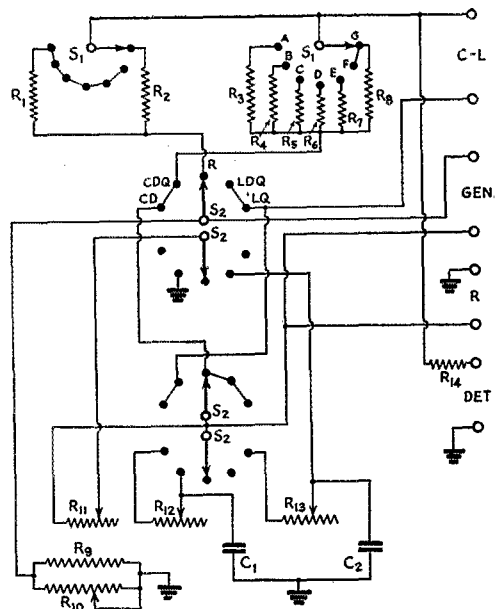

Fig. 1 -- Circuit diagram of the impedance bridge.
The complete circuit diagram of the instrument is given in Fig. 1. It includes a switching arrangement whereby any of the basic bridge circuits shown in Fig. 2 may be obtained.
In Fig. 1, when selector switch S_2 is in the position marked R , the circuit is that of the Wheatstone bridge, shown in Fig. 2-A. With this arrangement any resistance value from 0.01 ohm to 1 megohm can be measured when it is connected across the terminals at the right marked R .
As an illustration, in the instrument shown in the photographs R_v is 10,000 ohms, R_a is also 10,000 ohms (except for the highest resistance range, G in Fig. 1), while the tap switch, S_1 , changes R_b in steps of 10 to 1; i.e., 1 ohm, 10 ohms, 100 ohms, etc., up to 100,000 ohms. The multiplying factors which can be applied to the resistance setting of R_v are, therefore,
In the wiring diagram of Fig. 1, R_1 and R_2 are the resistors represented by R_a , while R_3 to R_8 are the resistors represented by R_b . R_v represents the resultant of R_9 and R_{10} in parallel. When S_1 is turned to the last tap (G), R_a is changed from R_1 (10,000 ohms) to R_2 (1000 ohms). In this position, R_b (which represents R_8) has a value of 100,000 ohms. The multiplying factor for this range is, therefore,
Labels on components refer to similar components and labels in Fig. 1 and to designations in the text. The respective dials controlling each variable unit also are indicated. In A, a DeJur student galvanometer or its equivalent is suitable for G. The galvanometer is strictly necessary only for low-resistance measurements. The 1000-cycle a.c. source and headphones may be used for measuring the higher resistance values as well as for inductance and capacity.
ohms. The standard represented by C_s is C_2 in Fig. 1. It has a value of $0.01 \mu\text{fd.}$, to which the above multiplying factors are applied when determining the value of the unknown capacity. The total capacity range varies from 100 $\mu\text{fd.}$